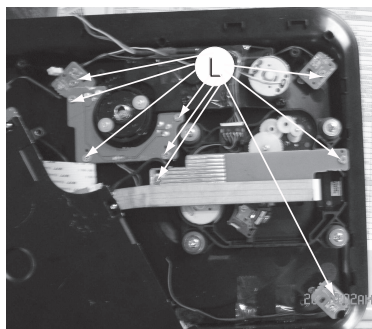

Figure 13
- 1) Loosen 9 screws "L" to remove Loader+Open/Close DET+LED*3 board as shown in figure 13.